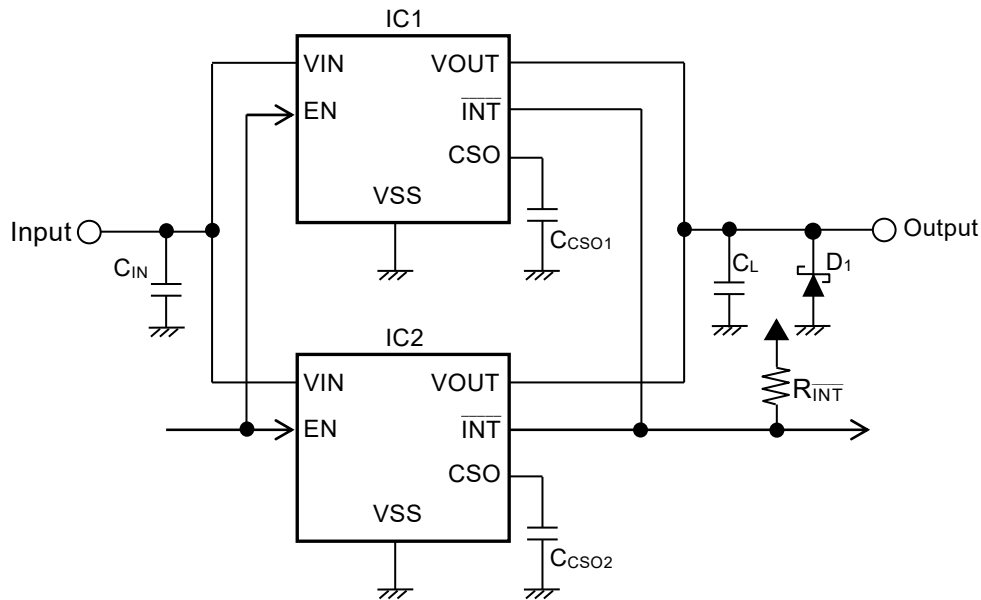

Figure 3 Example Showing Parallel Connection of Two ICs
Make a parallel connection to two high side switches as shown in **Figure 3** to operate them in parallel. To operate three or more high side switches in parallel, interconnect the IC pins of the third and subsequent ICs as shown in **Figure 3**.
2. As shown in Figure 3, the capacitor for stabilizing the input (C_{IN}), the capacitor for stabilizing the output (C_L) and the protection Schottky-barrier diode (D_1) can be shared, but the ICs should be placed close together and C_{IN} , C_L and D_1 should be located as close to the IC connection pins as possible.
When a parallel connection is performed as shown in **Figure 3** in "**2. Making Parallel Connections**", V_{CSO} on either IC1 or IC2 can be monitored. Monitoring the V_{CSO} of both ICs makes it possible to monitor the current of each IC during parallel operation.
The $\overline{\text{INT}}$ pin of the S-19682B/19683B Series is an Nch open-drain output and can therefore be wired-OR connected as shown in **Figure 3**. The $\overline{\text{INT}}$ pin goes to "L" when a parallel-connected IC enters overcurrent, overheat, or overvoltage status.